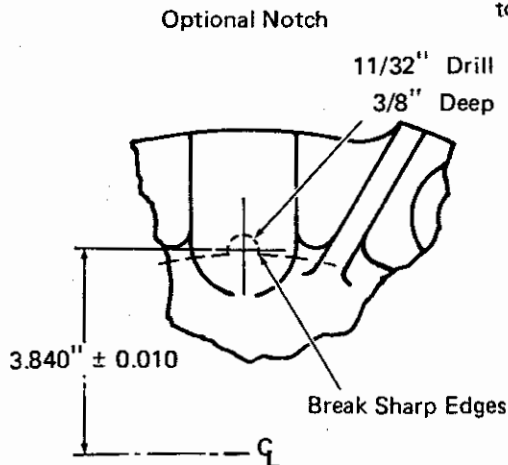

Fig. 1 - Commutator End Bearing Cover Modification
6. Commutator end bearing covers not equipped with nylon anti-churn insert should be machined to receive the insert as shown in Fig. 1.